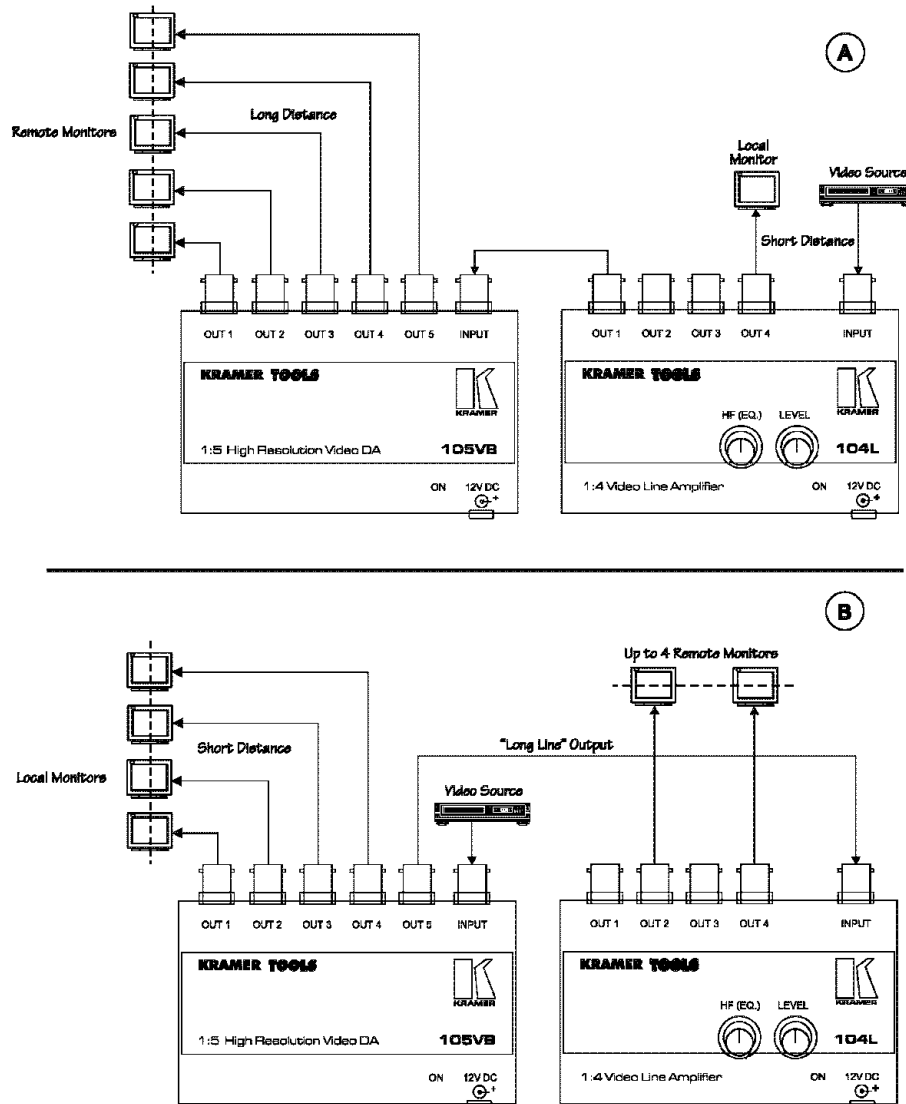

Figure 11: Typical Line Amplification
Figure 11 (A) describes a typical line amplification, using the 104L. The 104L, which is located as close as possible to the video source, receives a video signal from the source and splits the incoming signal to its four outputs. One of the outputs is connected to the 105VB distributors' input, while up to three local